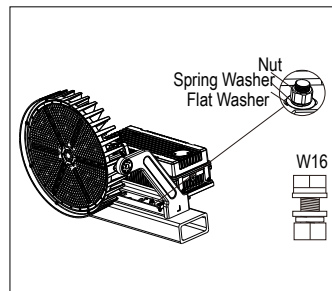

Figure 4
3. Install the luminaire on the crossbar and secure it with nuts, spring washers, and flat washers (Figure 4).